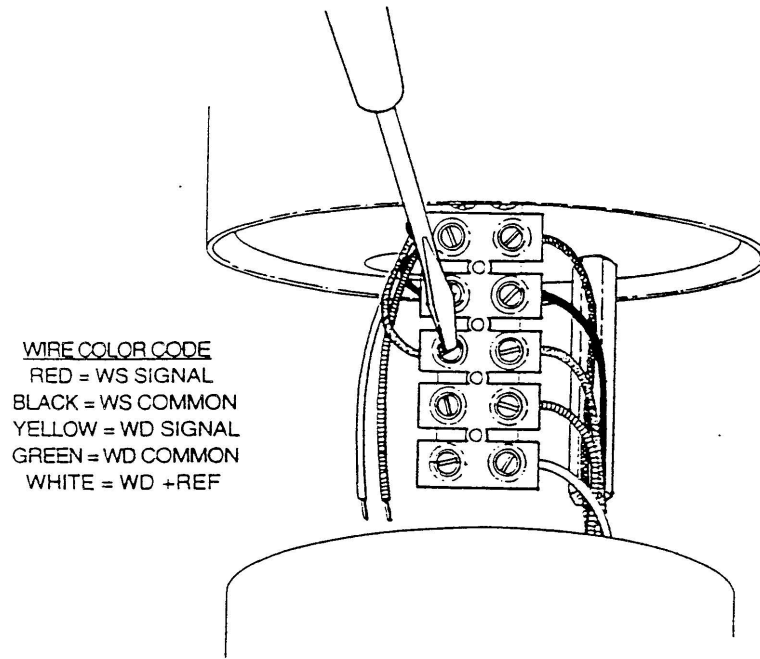

FIGURE 4-2
- B. Refer to figure 4-2. With small common screw driver, loosen the three wire contacts of the white, green, & yellow wires going to Pot. Gently pull the wires free from the terminal block and straighten them enough to allow easy passage through the stem on the top of sensor.
- j. Refer to Figure 4-2. Feed Pot/Mount Assembly wires into center hold in sensor stem. Note the location of the flat on the sensor stem as re-alignment of the Pot/Mount Assembly is critical to re-establish factory calibration.
- M. Re-open sensor body, connect pot wires in terminal block, matching wire colors. Refer to Figure 4-2.
- G. Using care to avoid stressing switch leads while routing, connect the switch wires in the terminal strip. Match wire colors with sensor connector harness. Refer to Figure 4-2.